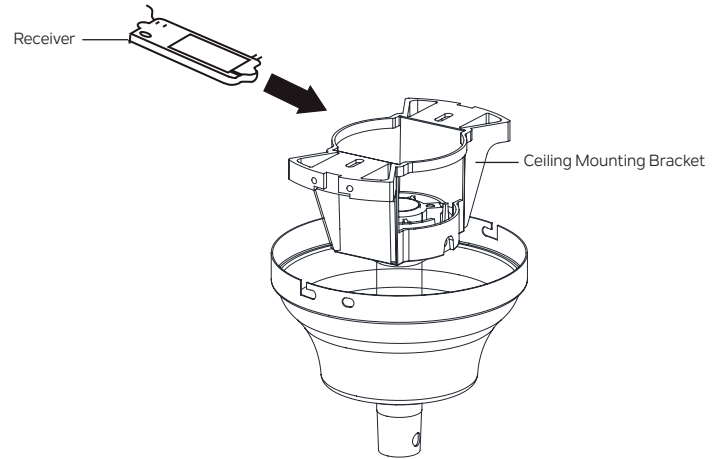

Fig. 13
**Step 1.** Insert the receiver into the ceiling mounting bracket with the flat side of the receiver facing the ceiling. **(Fig.13)** For best performance, make sure the black antenna wire (on the end of the receiver) remains extended, and does not become tangled with the electrical wires.